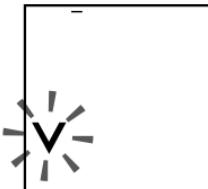

Fig.12
2. Touch "START/STOP". Air is exhausted from the cuff (fig.12).